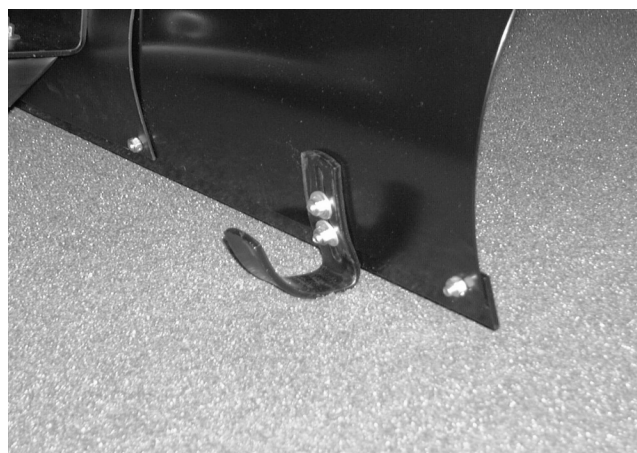

FIGURE 1.
1. Adjust the skid shoes so the wear plate is approximately 1/8" to 1/4" above the ground when the blade is fully lowered. Tighten the hex lock nuts securing the skid shoes to the blade using a 1/2" socket. See figure 1.